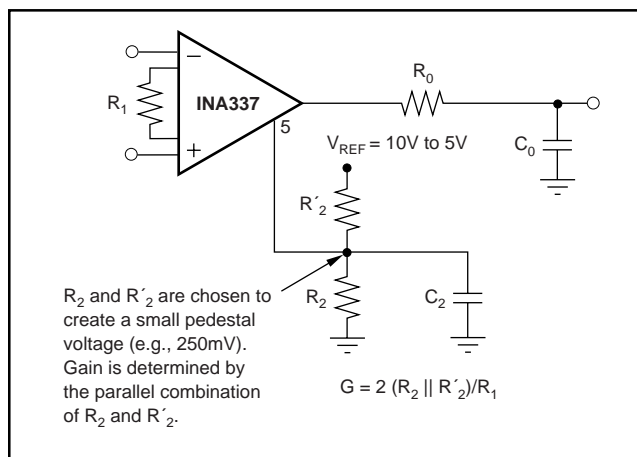

FIGURE 6. Output Range Pedestal.
NOTES: (1) C₂ and C_O combine to form a 2-pole response that is -3dB at 1kHz. Each individual pole is at 1.5kHz. (2) Output voltage is referenced to I_ACOMMON (see text). (3) Output pedestal required for measurement near zero (see Figure 6).